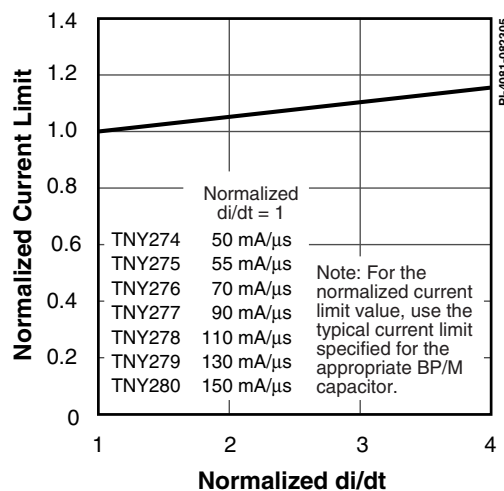

Figure 23. Current Limit vs. di/dt.
- E. For current limit at other  $di/dt$  values, refer to Figure 23.